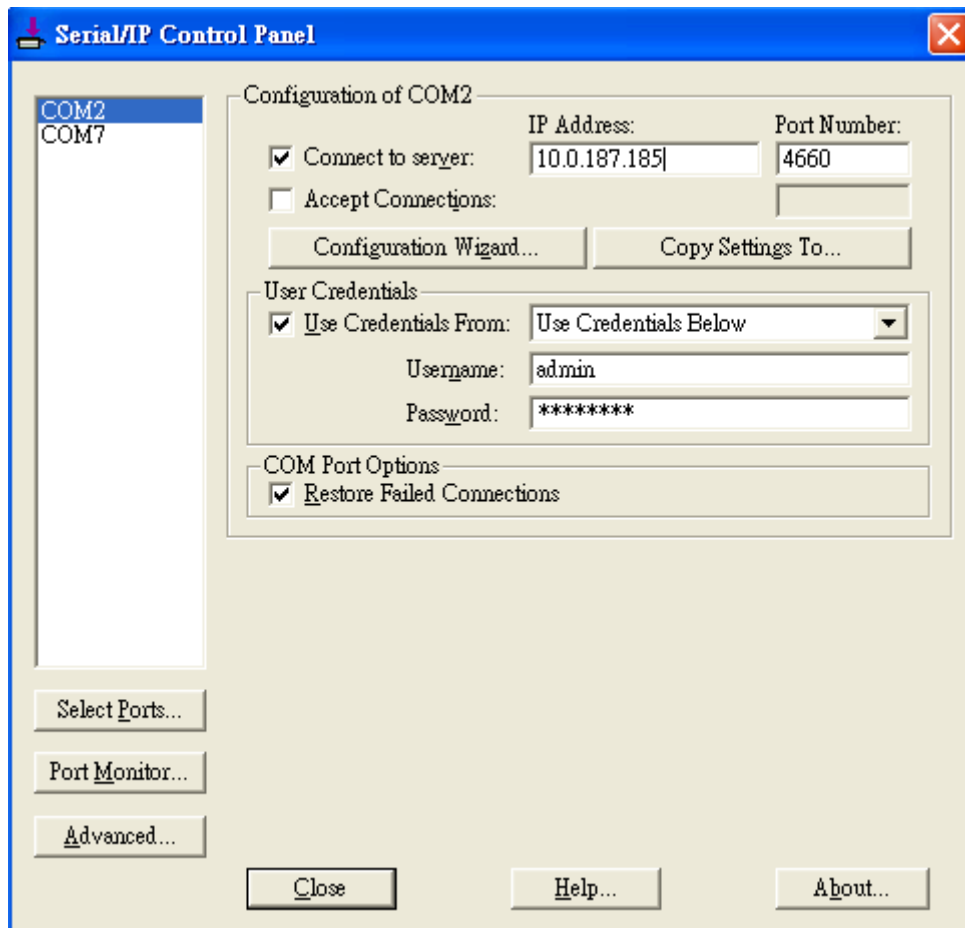

Figure 4.8 Virtual COM with Credentials
3. If **Enable VirtualCOM Authentication** is enabled in the serial device server (this is only available in limited serial device servers), it is necessary to enable **Use Credentials From** and select **Use Credentials Below** from the list (Figure 4.8). Enter the **Username** and **Password** of the serial device server in the respective fields.